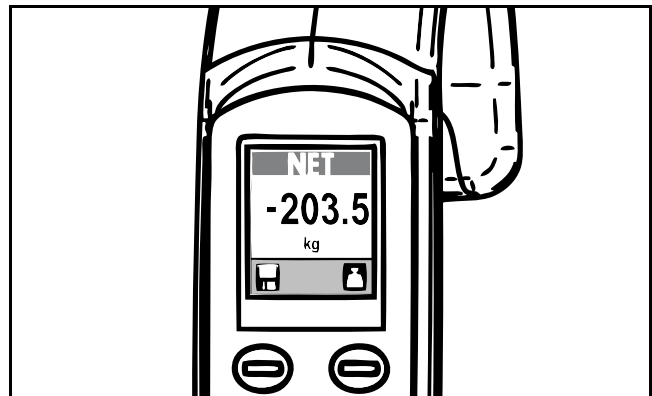

Fig. 67
- 3) Reinstall the sling back on the MAXI MOVE. Ignore the minus sign preceding the digits on the screen. Allow the weight reading to stabilize. The weight shown is the patient's actual weight (see Fig. 67).